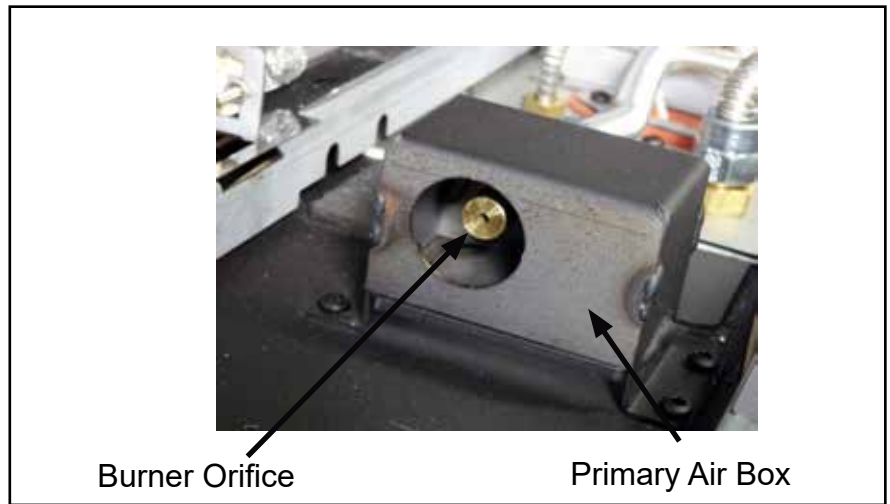

Figure 40: Burner Orifice Location
8. After removing the burner you will have full access to the burner orifice which is located inside the primary air box on the bottom of the burner tray. See Figure 40.